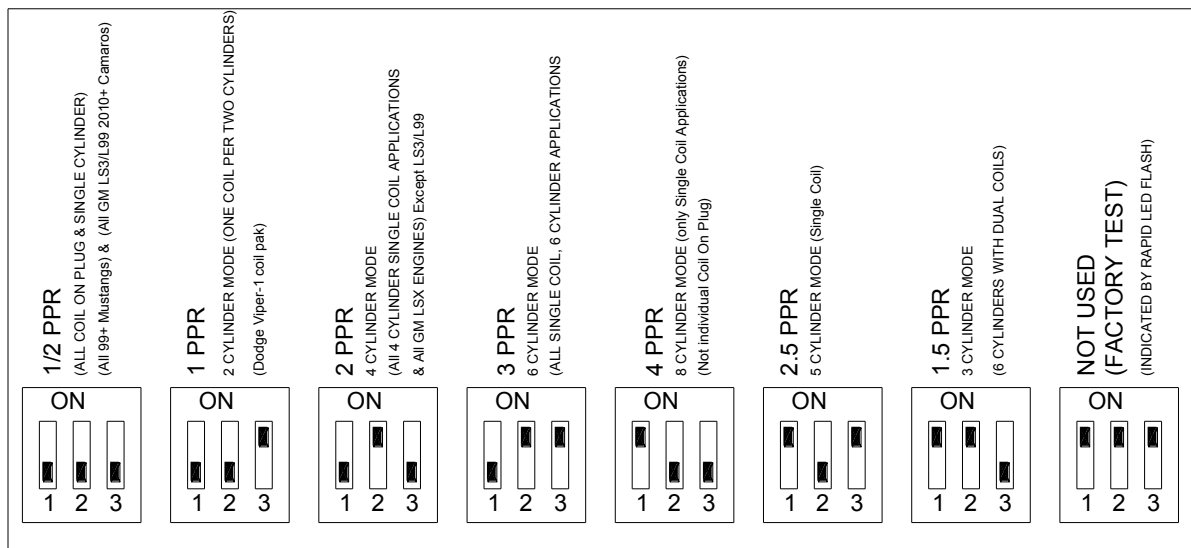

FIGURE 2
- SET "CYLINDER SETTING" TO MATCH THE VEHICLE (SEE FIGURE 2).